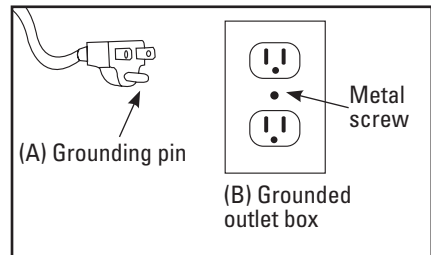

FIGURE 2
**NOTE:** This saw is intended for use on a circuit that has a grounded outlet box like the one illustrated in FIGURE 2 (B). This saw has a grounding plug that looks like the one illustrated in FIGURE 2 (A).